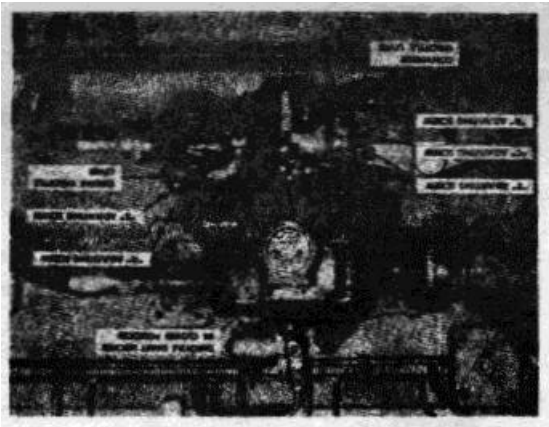

Figure 3-6. PT Pump with torque converter governor
2. Hold the converter lever in clockwise position and turn in converter governor idle screw "C" (Fig. 3-6) until you are sure the spring is compressed. Turn adjusting screw out; then, back in slowly to check this adjustment.
3. Start the engine and rotate the engine governor lever in a clockwise direction; then, set engine idle speed by adjusting the idle screw "A" to get 515 to 700 rpm. See Fig. 3-6.
4. Set approximate engine maximum no-load speed by adjusting maximum speed screw "B" while holding engine governor lever against its stop; turn lever in counterclockwise direction. See Fig. 3-6.
- A. Adjust screw "C" to get rated no-load tailshaft speed of converter (Fig. 3-6).
- B. Adjust screw "D" until converter governor lever is locked in place. (Fig. 3-6).
- A. Adjust screw "C" to get no-load tailshaft speed of converter. (Fig. 3-6).
- B. Adjust screw "D" until you reach maximum converter speed desired. (Fig. 3-6).
2. Loosen screw "C", Fig. 3-6, and back out approximately 3/4 inch.